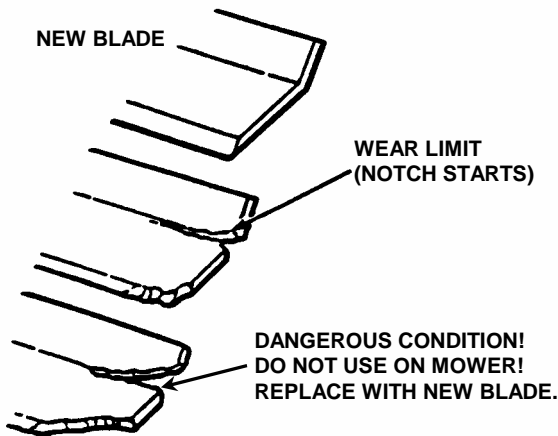

FIGURE 4.10
1. Inspect blade frequently for signs of excessive wear or damage. See Figure 4.10.
5. Inspect condition of blade. See Figure 4.10.